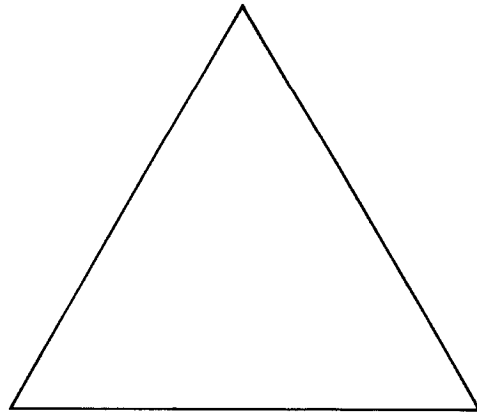

Fig.1
7. A pattern is required for use on the end of a church pew. In the given equilateral triangle Fig. 1, insert three equal circles, each touching two sides of the triangle and two circles to form the pattern.